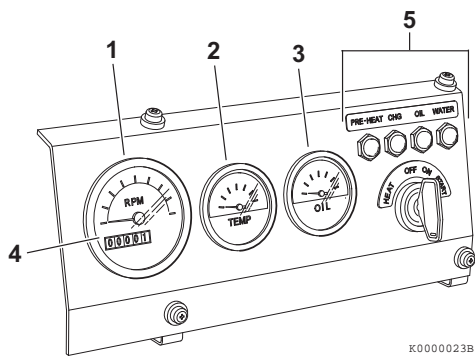
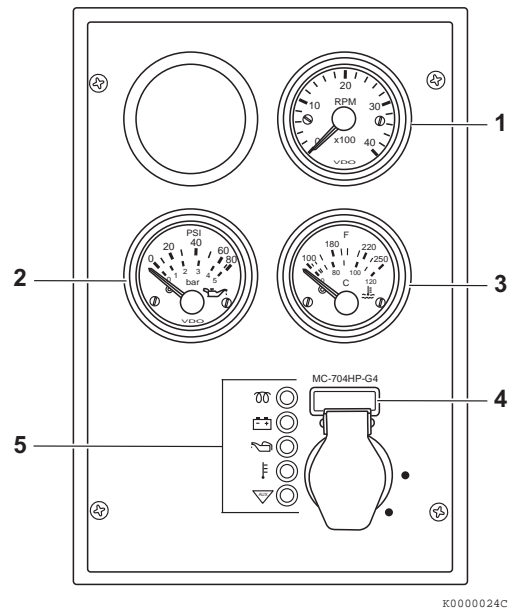

Figure 5
Figure 6
1. While the engine is running, check the gauges for normal indications. The gauges shown in **Figure 6** and **Figure 5** are provided for illustrative purposes only.
- **Tachometer (Figure 6, (1)) or (Figure 5, (1))** - Make sure the engine speed is within normal limits.
- **Engine oil pressure (Figure 6, (2)) or (Figure 5, (3))** - Make sure the engine oil pressure is within normal limits. See *Principal Engine Specifications* on page 105.
- **Engine coolant temperature (Figure 6, (3)) or (Figure 5, (2))** - Make sure the engine coolant temperature is within normal limits.
- **Hour meter** - The hour meter display (**Figure 6, (4)) or (Figure 5, (4))** shows the total number of hours the engine has run. This is useful for planning periodic maintenance operations. See *Periodic Maintenance Schedule* on page 64.
2. After the engine has reached operating temperature, all of the indicators (**Figure 6, (5)**) or (**Figure 5, (5)**) should be off. If any of the indicators are on, shut down the engine and have the necessary repairs performed.